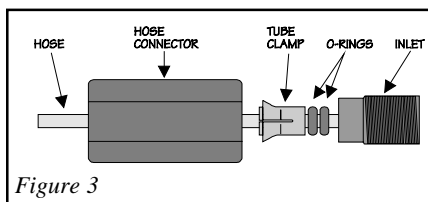

Figure 3
3. Install hose connector, tube clamp and two O-rings onto one end of the air hose (see figure 3). Apply rubber lubricant (soap solution *not* oil!) to the O-rings to ease installation on the air hose and into the shock absorber inlet. Plastic connector should just bottom on fitting. **Do not over tighten!** The function of the nut is to hold everything together, the O-rings do the sealing. Finger tighten only. (Maximum of 10 in./lb.)
8. Screw the supplied adaptor onto the air line (see figure 3). Tighten by hand as far as you can go, then lightly snug it tight with a wrench.